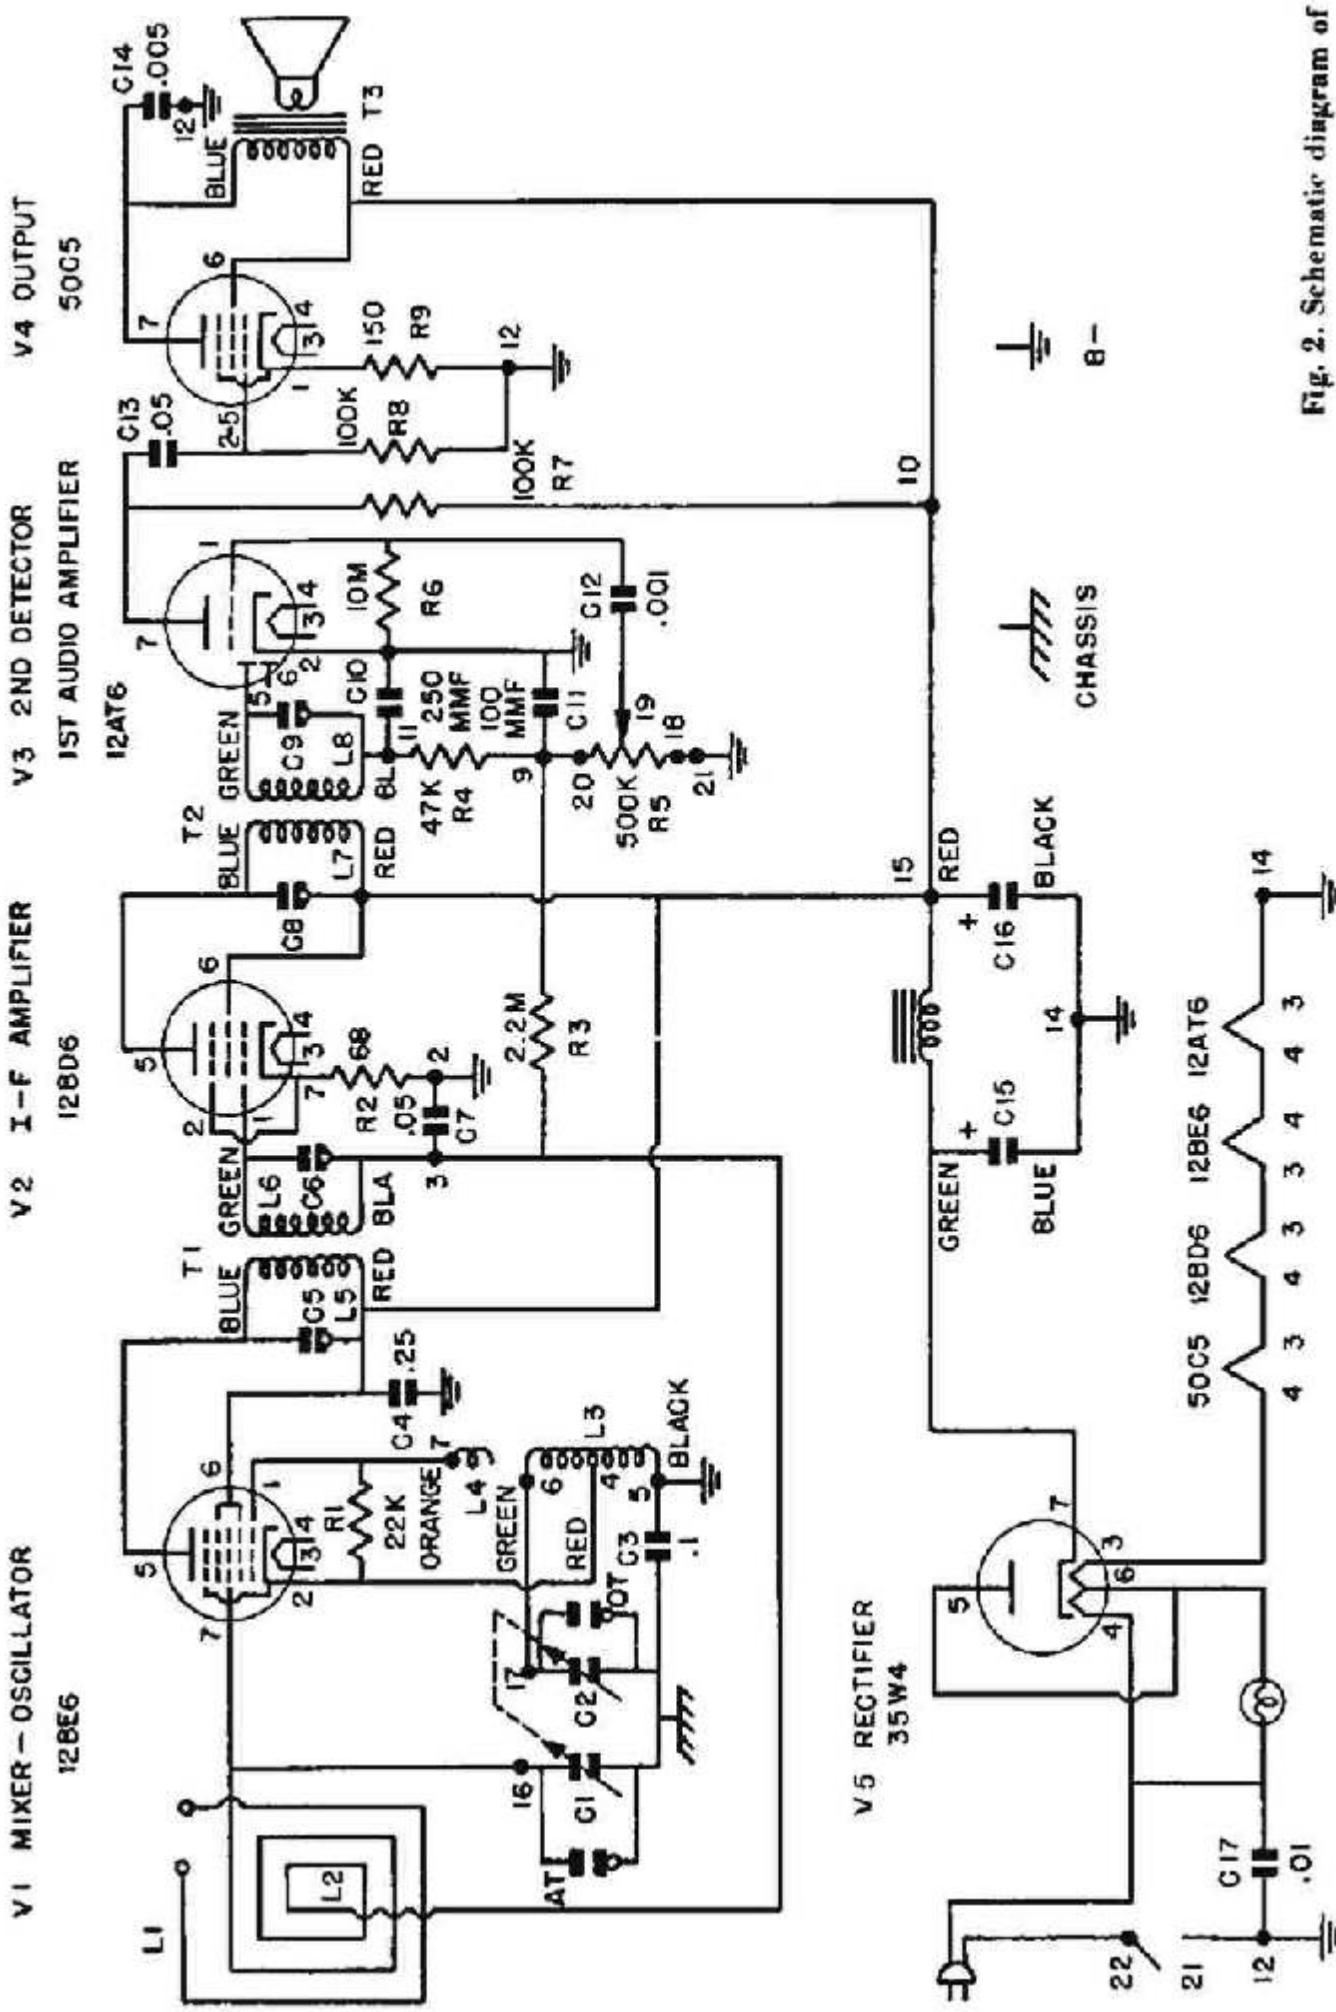

Fig. 2. Schematic diagram of
The following alignment procedure is presented as an example that can be used for aligning receivers when instructions are not available, if the manufacturers alignment data is available, it should be used. Fig. 2 shows a typical AC-DC broadcast receiver; Use this schematic to follow the alignment steps.
2. Connect a DC voltmeter across the volume control. You could, of course, use one of the other response indicators discussed previously. The volume control in Fig. 2 is the 500K potentiometer, R5. Connect the voltmeter to terminals 20 and 18. The high end of the volume control will have a negative potential so set the meter to read DC on the 3-volt scale.
CS, and C9 in Fig. 2, in many receivers, the IF adjustments are made by moving an iron core slug in the IF coil. As you adjust for maximum response, keep attenuating the input signal as necessary to keep the voltmeter reading on scale.
8. Repeat all IF adjustments starting with the second detector adjustment (C9 In Fig. 2) to eliminate the effects of interaction between the adjustments.
12. Set the Signal Generator Band switch and tuning control to the frequency indicated by the receiver dial. Adjust the oscillator trimmer (OT) for maximum reading on the response indicator. The oscillator trimmer is a screwdriver adjustment on the tuning capacitor. C2 in Fig. 2, Also adjust the antenna trimmer (AT) mounted on section C1 of the tuning capacitor gang for maximum output.